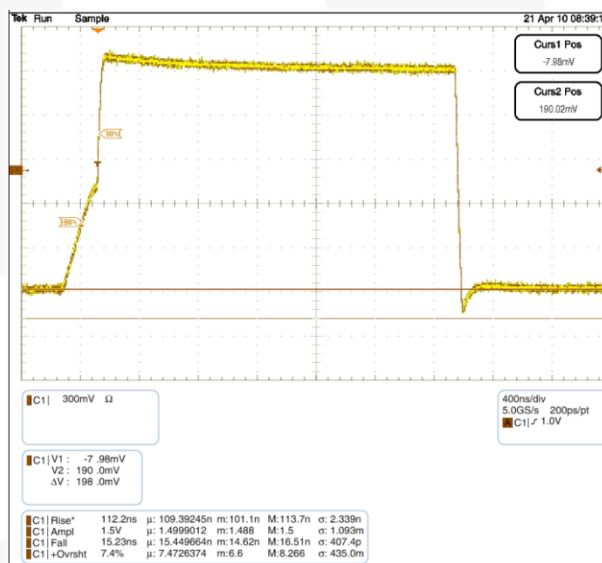

Figure 4. Waveform C: 600pF, Total R_{PU}: 2.2K Ω
C = the bus capacitance. If the FXMAR2104 is attached to the master [on the A port] and there is a slave on the B port, the Npassgates act as a low resistive short between the ports until either of the port's $V_{CC}/2$ thresholds are reached. After the RC time constant has reached the $V_{CC}/2$ threshold of either port, the port's edge detector triggers both dynamic drivers to drive their respective ports in the LOW-to-HIGH (LH) direction, accelerating the rising edge. The resulting rise time resembles the scope shot in Figure 4. Effectively, two distinct slew rates appear in rise time. The first slew rate (slower) is the RC time constant of the bus. The second slew rate (much faster) is the dynamic driver accelerating the edge.